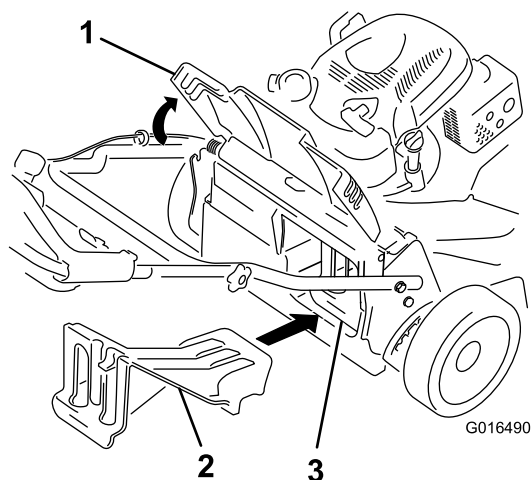

Figure 24
- If the rear-discharge plug is not installed, grip it by the handle, raise the rear deflector, and insert it into the rear-discharge chute until the latch locks into place; refer to Figure 24.
Important: Ensure that the rear-discharge plug is in place before you recycle the clippings (Figure 24).